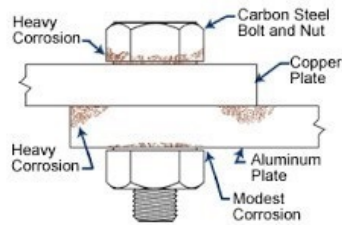

Figure 1 Chemical Attack Corrosion
Metal corrosion is an alteration of a metal by either a conventional chemical attack or by galvanic reaction. Atmospheric corrosion is a common example of a chemical attack: the variety of chemicals in the atmosphere like oxygen, chlorine compounds, carbon dioxide, sulfur, and water vapor corrode metals exposed to them, as seen in Figure 1. Galvanic corrosion, on the other hand, can only occur when a ferrous metal is connected to a non-ferrous metal. Ferrous metals, like black steel, malleable iron, cast iron, stainless steel, and galvanized steel, contain iron. Non-ferrous metals, like copper, brass, aluminum, and bronze, do not. The types of metals involved is not the only criteria for galvanic corrosion, though; all three (3) of the conditions listed below must be present for a reaction to occur:
Galvanic corrosion can be detected using galvanic sensors or just plain visual inspection. The galvanic sensor system is normally used for detecting the corrosion damage of steel embedded in concrete structures, as well as for metal used in power lines, conditions that are very difficult to verify with the naked eye. However, if visual inspection can be performed, it is the simplest method for corrosion detection; the corrosion back in Figure 1, for instance, is